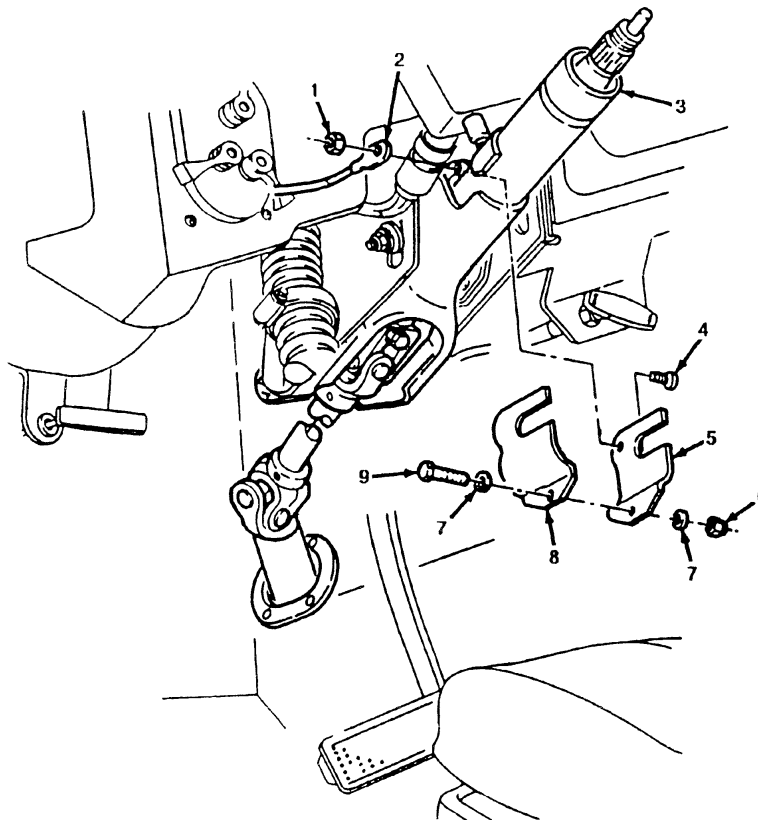

FIGURE 3-16
- B.** Secure ground lead 57C (2) and 12342875 rigidity bracket (5) to steering column (3) with NSN 5305-00-582-9501 screw (4) and NSN 5310-00-124-9265 nut (1). Do not tighten nut (1). (see figure 3-16)
- C.** Secure 12342876 bracket (8) to bracket (5) and steering column (3) with NSN 5305-00-225-3843 screw (9), two NSN 5310-00-809-4058 washers (7), and NSN 5310-00-061-4650 locknut (6). Tighten nut (6) to 10 lb-ft (14 N•m).
- D.** Tighten nut (1) to 5 lb-ft (7 N•m).
- F. Secure ground lead 57C (2) and 12342875 rigidity bracket (5) to steering column (3) with NSN 5305-00-582-9501 screw (4) and NSN 5310-00-124-9265 nut (1). Do not tighten nut (1). (see figure 3-16)
- G. Secure 12342876 rigidity bracket (8) to bracket (5) and steering column (3) with NSN 5305-00-225-3843 screw (9), two NSN 5310-00-809-4058 washers (7), and NSN 5310-00-061-4650 locknut (6), Tighten nut (6) to 10 lb-ft (14 N•m).
- H. Tighten nut (1) to 5 lb-ft (7 N•m).